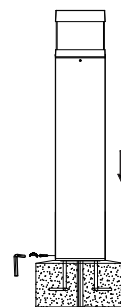

Fig 9
9. Put the fixture body back on and tighten the 3 screws **Fig. 9**. Installation complete.